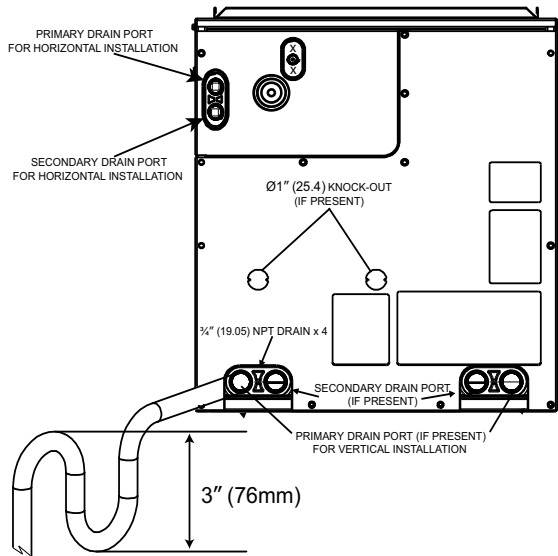

Fig. 14 – Condensate Trap (shown in vertical configuration) A221126
In horizontal installation with a 4-way multipoise furnace, break off perforated duct flanges on furnace. See furnace Installation Instructions. For condensate connections, use the correct drain lines per Fig. 14.
- Make trap at least 3 inches (76 mm) deep and no higher than the bottom of unit condensate drain opening (Fig. 14).